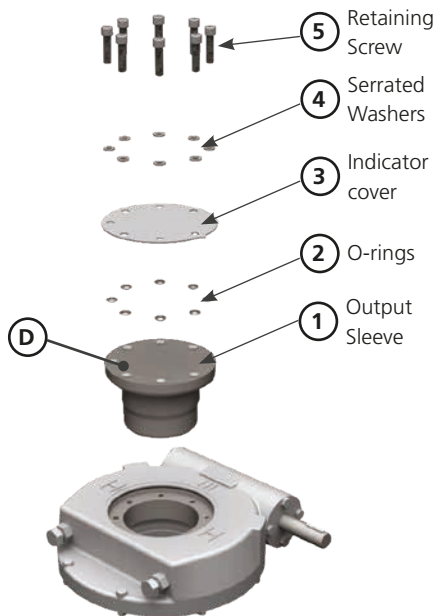
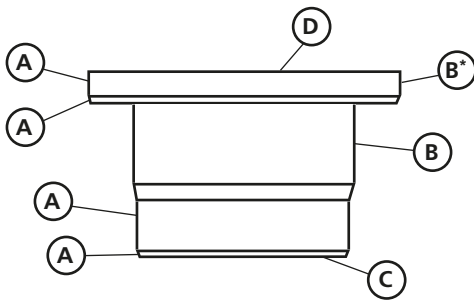

Fig. 1 - IW3-11 Output Sleeve Fitting
Fig. 2 - IW Output Sleeve, Important Surfaces
Gearbox sizes IW12 to IW16 have an output which is directly machined as specified with the order. All other worm gearbox combinations have a removable output sleeve. See Item 1, Fig.1.
Fig. 1 shows the removal of the output sleeve from the gearbox. See Fig. 2 for removing the output sleeve without damaging the sealing faces.
Important Notes for Fig. 2:
Referring to the item numbers in Fig. 1, the output sleeve can be easily removed from the top of the gearbox by first removing the retaining screws (5). The screws are either serrated under their heads or are fitted with serrated washers (4). Then remove the indicator/cover plate (3).
Referring to Fig. 1, O-rings (2) are used to seal the indicator plate, output sleeve and retaining screws. Upon final installation on the valve, screws (5) must be tightened to the correct torque figures as shown on the label on the underside of the indicator/cover plate.
Before re-fitting the output sleeve after machining, check that the surfaces marked 'A' in Fig. 2 are not damaged. Damaged surfaces can break the gearbox seals and cause water ingress or grease leakage. Applying a thin layer of grease to the faces marked 'A' will make refitting of the sleeve easier.
As detailed in Fig. 1 and Fig. 2, it is recommended that silicon sealant is applied to face 'D' to seal the indicator/cover plate to the output sleeve. Taking care not to apply sealant to the O-rings (2) or the sealing faces with the O-rings.
Before re-assembly, clean and de-grease the top face of the output sleeve, underside of the indicator/cover plate, and the socket head cap screws. Make a note of the tightening torque required for the output sleeve screws on the label on the underside of the indicator plate. Insert the screws and washers into the holes in the indicator/cover plate, as per Fig. 1.
- 4) Engage gearbox output sleeve onto the valve shaft ensuring the valve shaft keyway, square etc. is in alignment (if necessary rotate output sleeve – refer to Fig. 1)